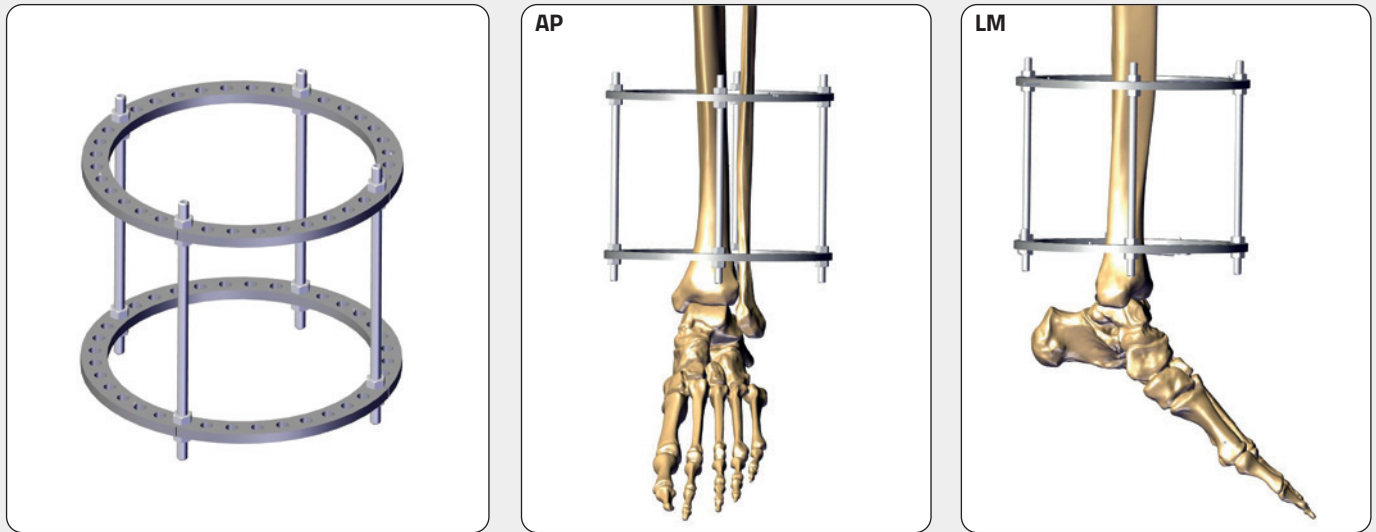

Fig. 1
- Insert the Tibial Ring Block on the patient leg **Fig. 1**.